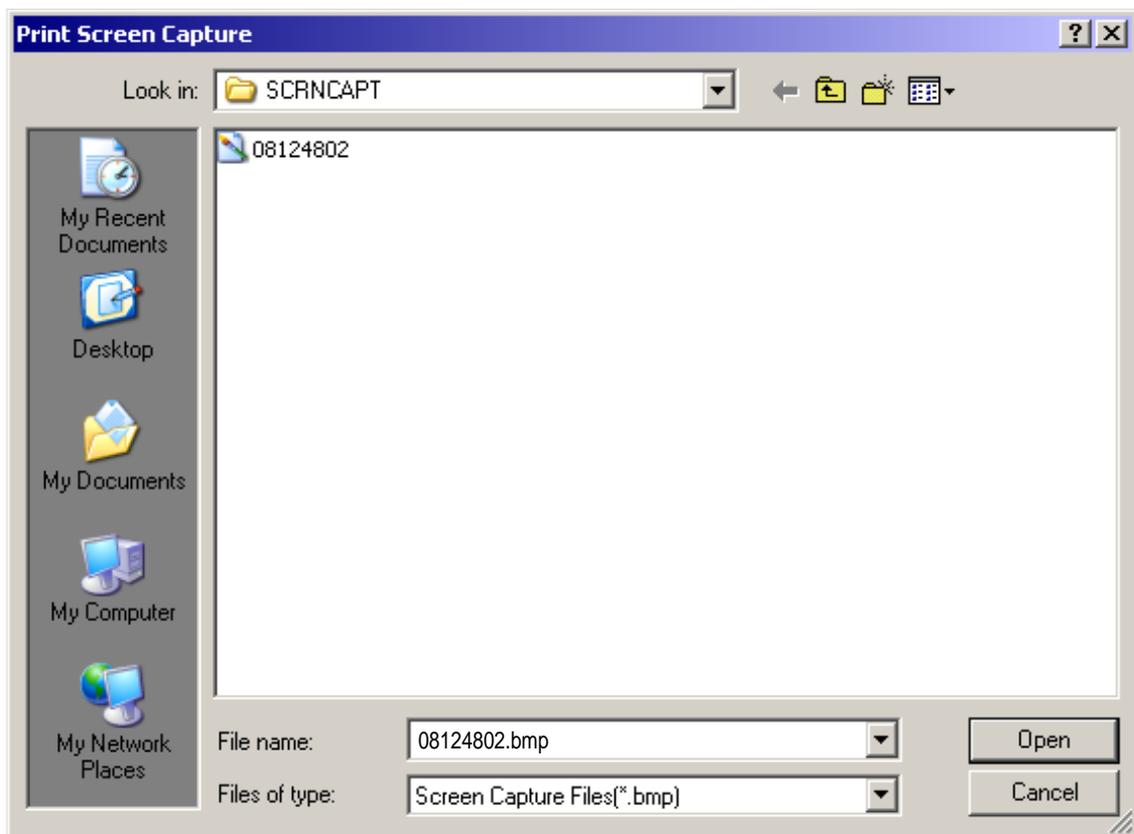

FIGURE 23. Print Screen Capture dialog box
1. Select the PrintScreenCapture option from the RAMP tools menu to display the Print Screen Capture dialog box. (See Figure 23.)